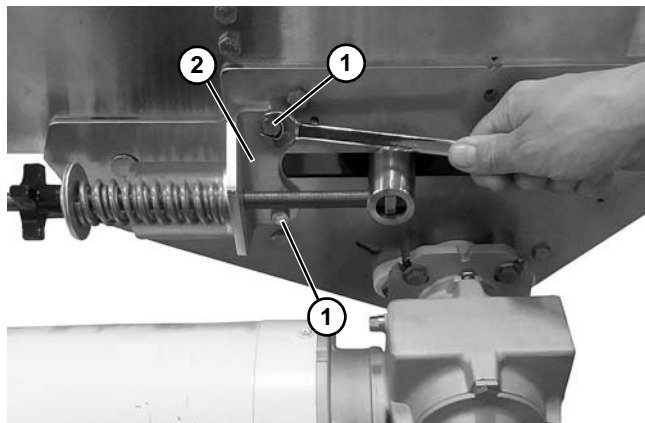

Figure 54
13. Remove two bolts (**Figure 54, item 1**) from plate (**Figure 54, item 2**) on both sides of the center drive.